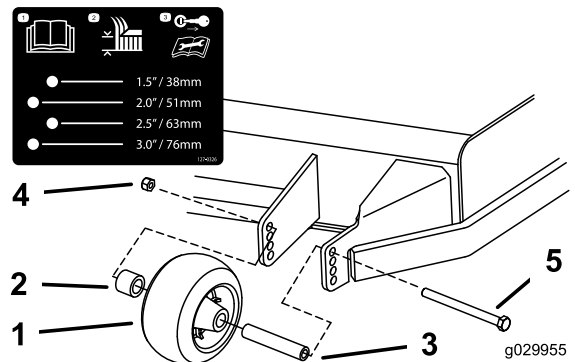

Figure 25
3. Adjust the anti-scalp rollers as shown in Figure 25.